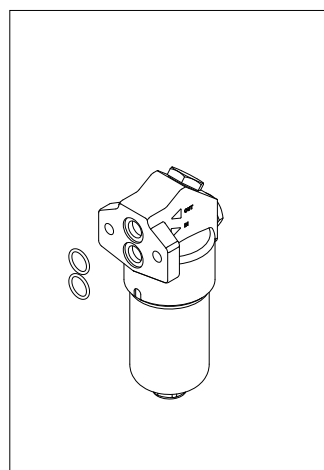

fig. 18
- (Fig. 18) Replace the O-rings of the manifold